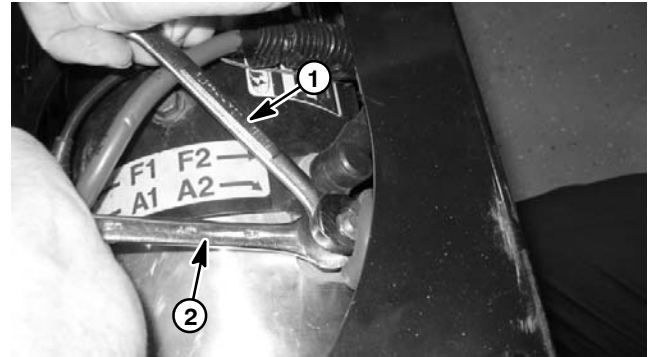

Figure 14
**IMPORTANT:** When removing cables from traction motor terminals (A1, A2, F1 and F2), use a wrench to retain lower nut before loosening upper nut (Fig. 14). If terminal studs are allowed to turn during upper nut removal, internal motor damage can occur.
**IMPORTANT:** When connecting cables to motor terminals (A1, A2, F1 and F2), use a back-up wrench to retain lower nut before tightening upper nut (Fig. 14). If terminal studs are allowed to turn during upper nut installation, internal motor damage can occur.